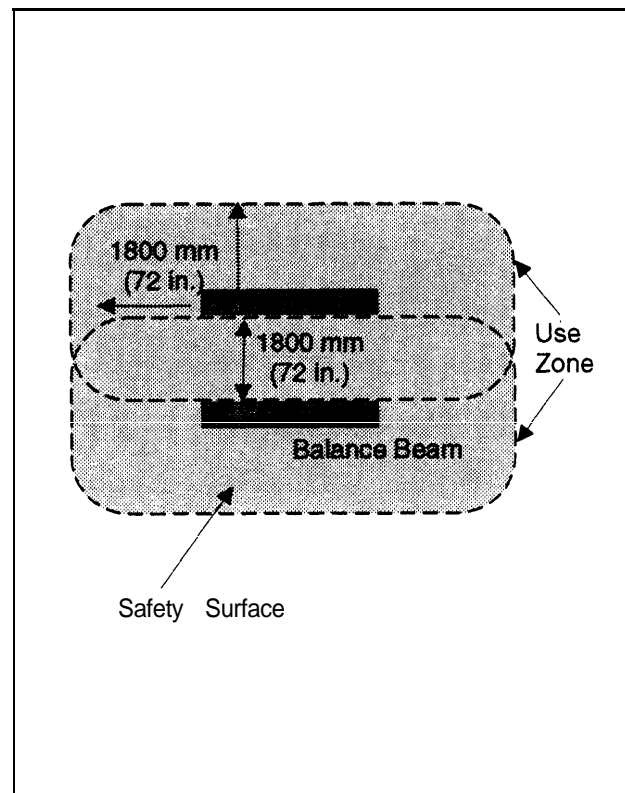

Figure 3-6: Typical overlapping use zones.
*d. Playhouses and Ba/ante Beams.* Some play equipment with a maximum accessible height under 750 mm (30 inches) may have overlapping use zones (fig 3-6). Two nonclimbable playhouses may have overlapping use zones. Two balance beams under 500 mm (20 inches) high may have overlapping use zones.